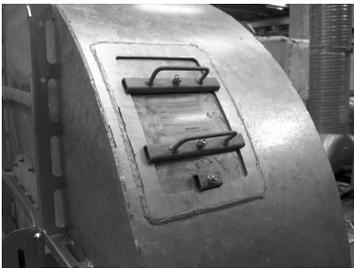

Fig. 17
3. Check that the rotor can run freely. This is done by opening the inspection hatch and turning the rotor by hand. See fig. 17. If there are no abnormal noises, close the inspection hatch again, and test the fan. Follow the procedure described in section "4.5 Start-up procedure".